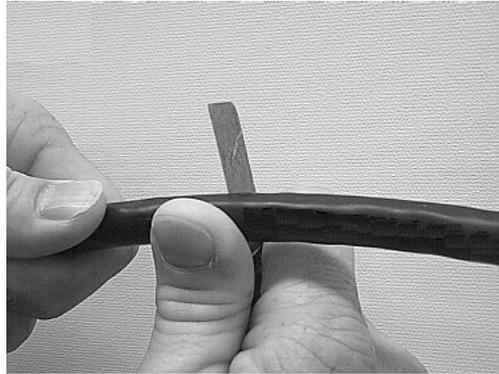

Figure 21 – Ring cut the cable jacket.
7.2 Ring cut the cable at the measured mark (Figure 21).